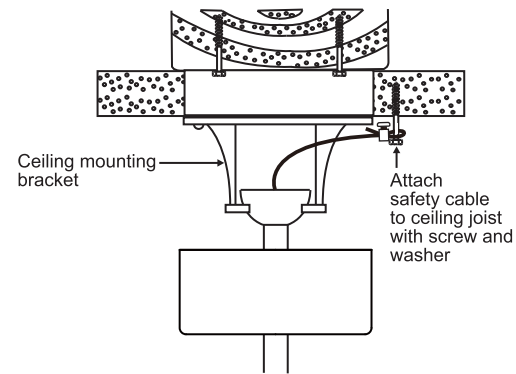

Fig. 11
Step 1. Attach the provided wood screw and washers to the ceiling joist next to the mounting bracket but do not tighten. (**Fig. 11**)